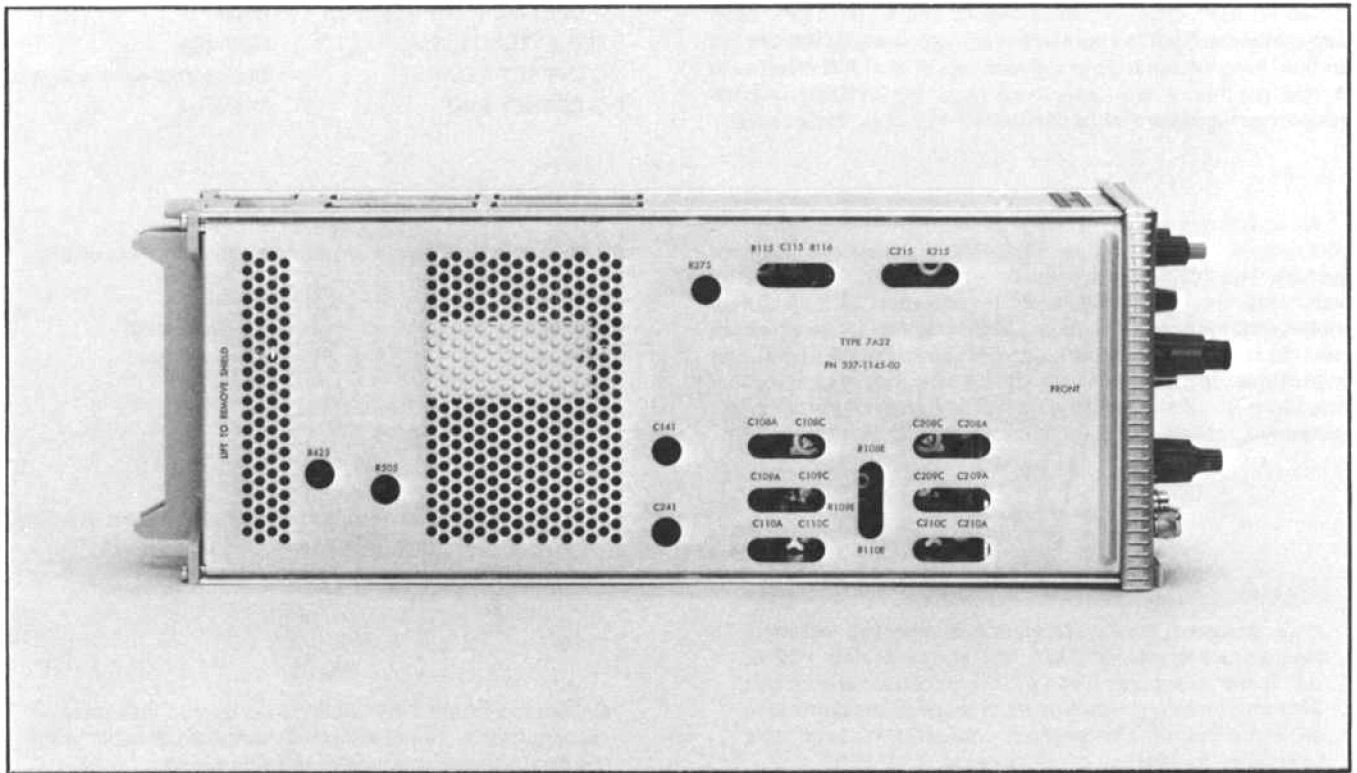

Fig. 5-1. Left side of the 7A22 showing adjustment locations.
- d. ADJUST—AC Step Atten Bal control, R505, (see Fig. 5-1) to position the trace within 1.5 div of graticule center.
- e. ADJUST—Variable Bal control, R425, (see Fig. 5-1) for no trace shift while rotating the VARIABLE control.
- d. ADJUST—Coarse DC Bal, R275, (see Fig. 5-1) to position the trace to graticule center.
- e. ADJUST—The +Gate Current Zero control, R115, (see Fig. 5-1), to position the trace to graticule center.
- e. ADJUST—The -Gate Current Zero control, R215, (see Fig. 5-1), to return the trace to graticule center.